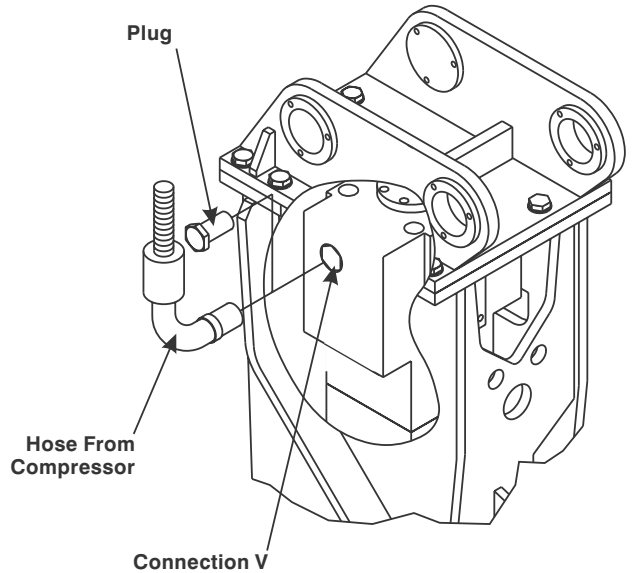

Figure 9-10. Typical Underwater Connection
(Refer to Figures 9-10, 9-11 and 9-12.)
1. Remove the plug from connection V (Refer to Figure 9-10).